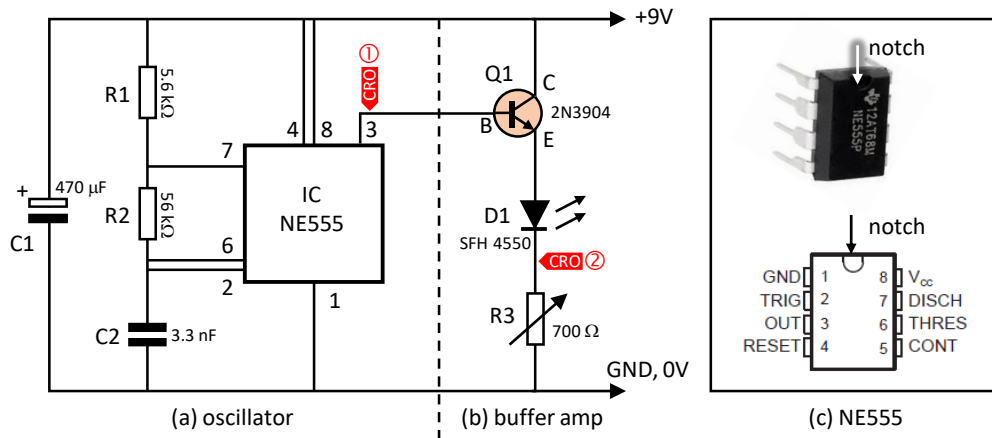

Fig. 2. The beam generator: (a) the oscillator, (b) the buffer amplifier, and (c) the picture and pinout diagram of the 555.
The 555 can be configured to operate as a *monostable* or an *astable* circuit [3]. Figure 2(a) shows a 555 *astable* circuit: its output (pin 3) switches between  $V_{\max}$  and  $V_{\min}$  at a frequency  $f = 1.44/((R1+2R2)C2)$  [4].  $V_{\max}$  is typically the positive supply rail (9 V),  $V_{\min}$  the negative or ground (0 V). The 555 output drives the buffer amplifier as shown in Fig. 2(b). The pin configuration of the 555 IC is shown in Fig. 2(c).
► **Design** (determine  $R1$ ,  $R2$ ,  $C2$ ) a 5-Hz oscillator. **Build** it on a protoboard. **Test** it (observe the 555 output, pin 3 or ① in Fig. 2(a)) using a cathode-ray oscilloscope (CRO). Save the screenshot . This low-frequency oscillator will be used to drive a visible LED later.
The buffer amplifier does “buffer” but does not “amplify”. It consists of a single bipolar junction transistor (BJT), an npn type is selected as an example, see Fig. 2(b). The buffer acts as an interface between the 555 and the LED (D1). The BJT is connected in a *common-collector* mode. The emitter voltage ( $V_E$ ) “follows” that of the base ( $V_B$ ) thus the configuration is also called an *emitter follower*. “Follows” means approximately equal, not equal. In fact  $V_E$  is lower than  $V_B$  by the amount close to the forward voltage drop of a Si p-n junction ( $\sim 0.7$  V), i.e. in the on state  $V_{BE} \sim 0.7$  V. The main purpose of “buffering” (instead of connecting the LED directly to 555 pin 3) is that the LED current  $I_{LED}$  can be adjusted (by varying  $R_3$ ) independently from the 555.